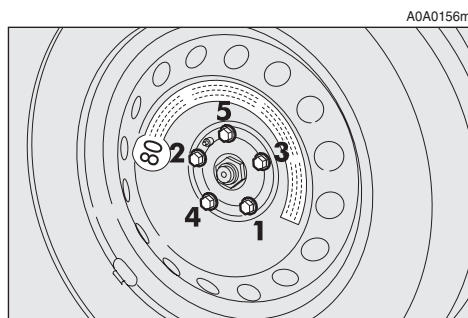

fig. 8
— Using the wrench provided, fully tighten the bolts in the sequence shown in **fig. 8**.
— Using the wrench provided, fully tighten the bolts in the sequence shown previously for the compact spare wheel **fig. 8**.
- Using the wrench provided, tighten the bolts in the sequence shown previously for the compact spare wheel **fig. 8**.